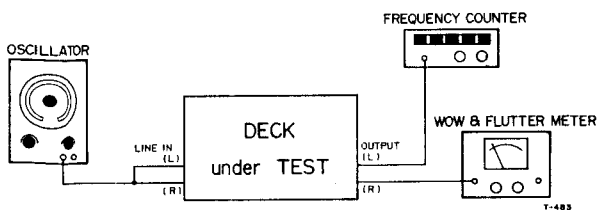

Fig. 7-5 Test Connections for Wow/Flutter and Tape Speed Test
The tape speed should be measured using TEAC flutter free tape, Model YTT-2003 (7-1/2 ips) and YTT-2002 (3-3/4 ips). These tapes contain a highly accurate 3,000 Hz tone. Connect a digital frequency counter to either line OUTPUT jack. See Fig. 7-5. The indicated frequency should be 3,000 Hz (± 30 Hz) for all speeds during playback of the tape.
1. Connect Test equipment to the deck as shown Fig. 7-5. (Except oscillator).
1. Connect Test equipment to the deck as shown Fig. 7-5.